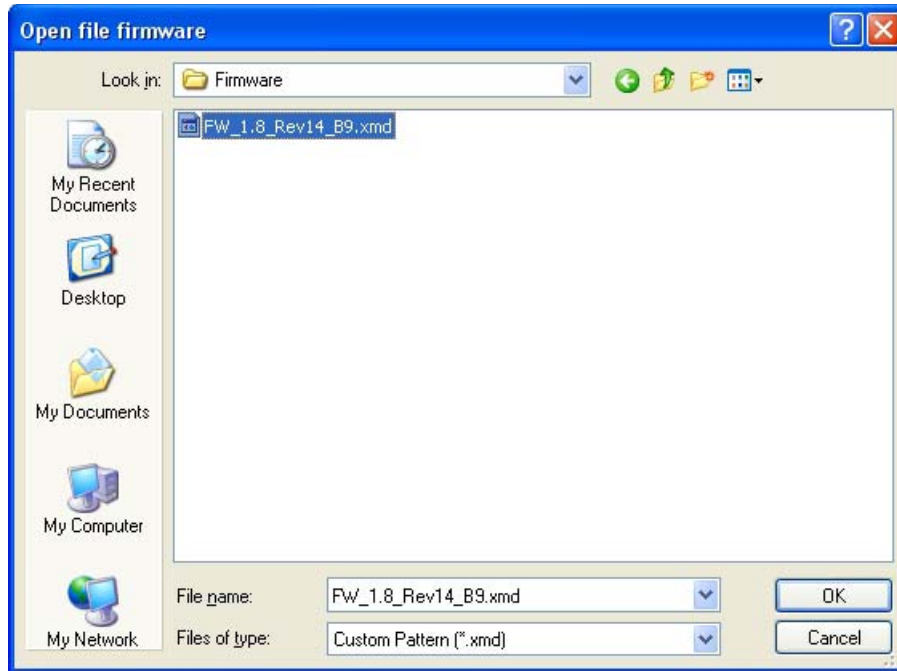

Figure 10. Load New Firmware
6. Open the required firmware folder. Select the *.xmd* file and click OK (Figure 10):